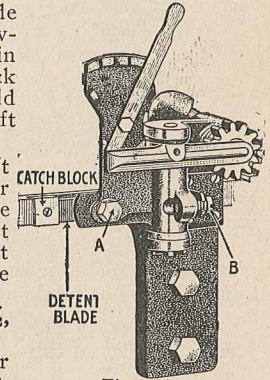
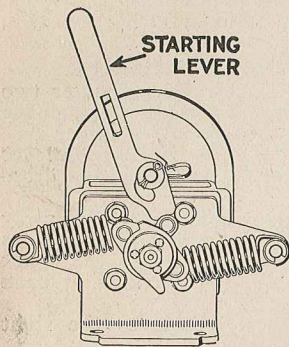

Figure 3.
Figure 5.
**Third.** Turn the flywheels to the right until the detent blade (Figure 3) on the governor can be pushed in behind the catch block on the cam rod and hold it there with your left hand.
**Fifth.** Use tripping lever "A" (Figure 3), which you will find on the magneto, and cock the springs as shown in Figure 5.